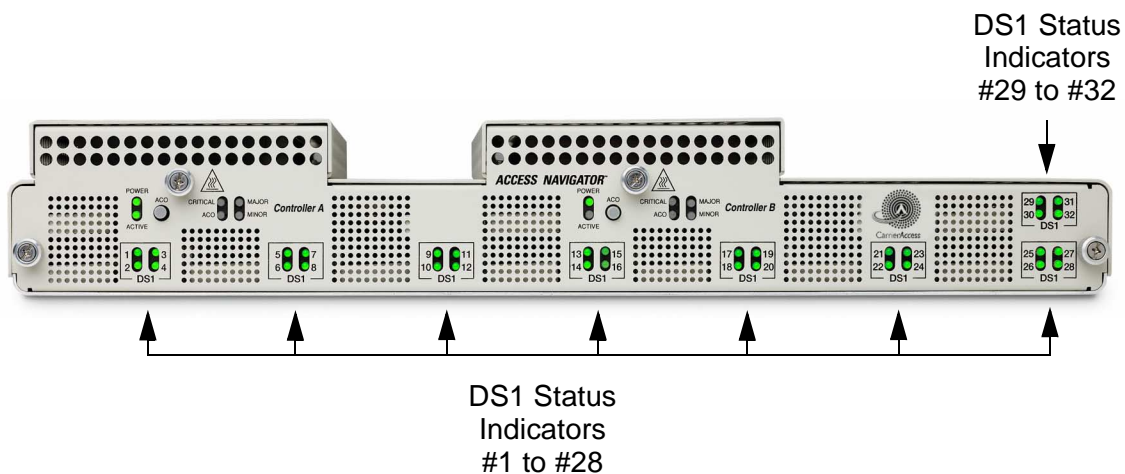

Figure 6-27. Location of Front DS1 Status Indicators
3. Verify the following front panel status indications (see Figure 6-27).